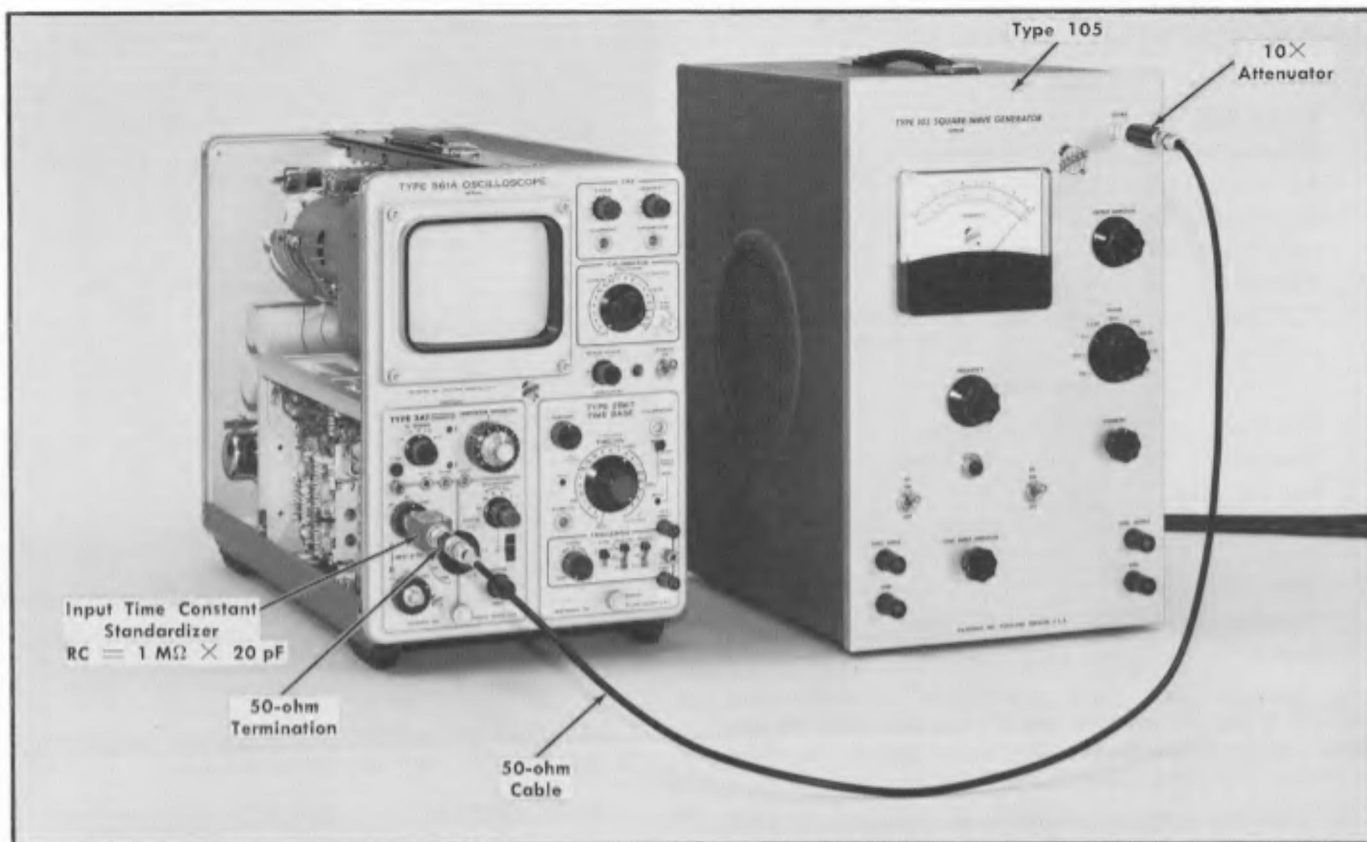

Fig. 5-40. Setup at completion of step 34b.
b. Apply a 1-kHz signal from the Type 105 Square-Wave Generator, or equivalent, through a 10× attenuator, a coaxial cable, a 50-ohm termination and a 1-MΩ × 20 pF input time constant standardizer (in that order) to the A input connector. Fig. 5-40 shows the setup required to preform this step.